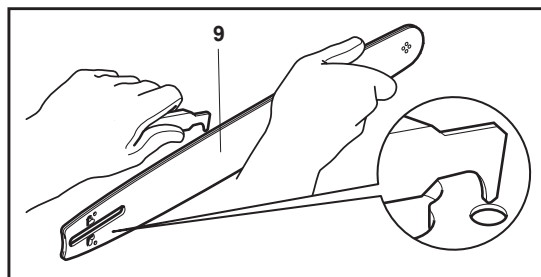

Fig. 38
3. Check the drive sprocket (7). If it is worn or damaged due to strain, have it replaced by an authorised service agent or a similarly qualified person.
4. Clear residue from the rails on the guide bar (9) by using a screwdriver, putty knife, wire brush or other similar tool. This will keep the oil passages open to provide proper lubrication to the guide bar (9) and saw chain (8) (Fig. 38).